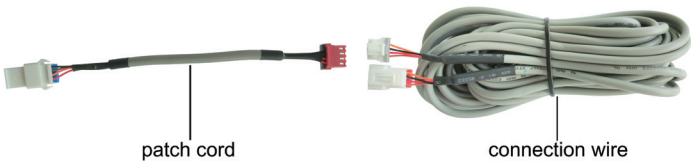

Fig. 4.6.3: Schematic diagram of patch cord and connection wire
For matching with different models, the patch cord and the connection wire are provided in the packaging box of wired controller. As shown in Fig. 4.6.3.
- If the air conditioner has been installed with the patch cord (Fig. 4.6.3) used for connecting the wired controller.